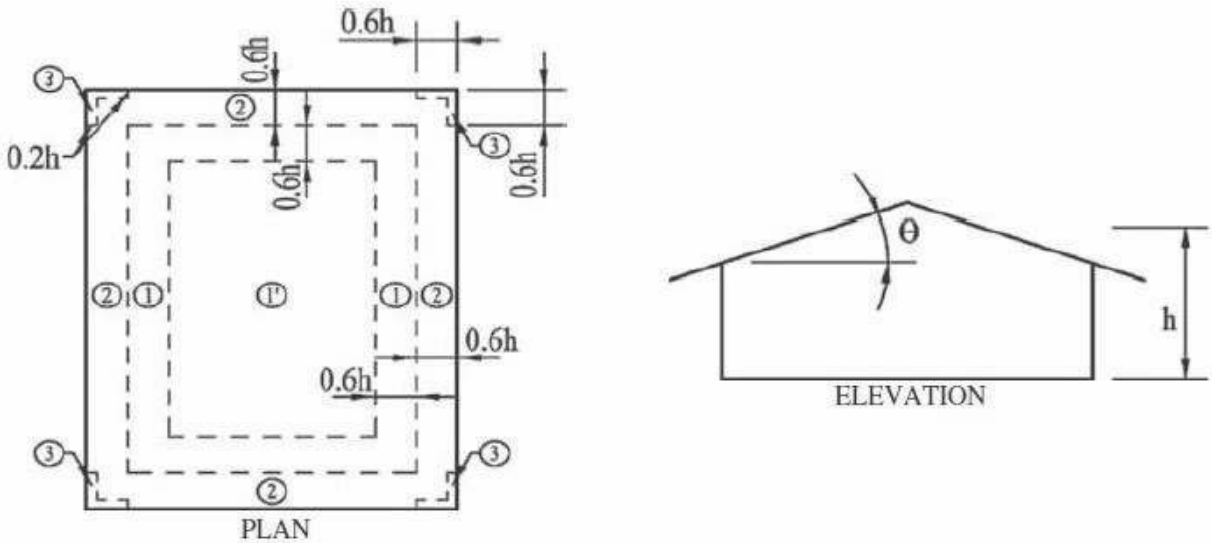

Figure 1: ASCE 7 Roof Zones for Gable Roofs $\Theta \leq 7^\circ$
5. Roof zones are defined by ASCE 7-16 Figure 30.3-2A to Figure 30.3-2I and are organized into three groups in which the zones share the same External Pressure Coefficients (GCp). Roof zones comprising each group along with each roof zone's size and location are depicted in Figures 1 and 2.